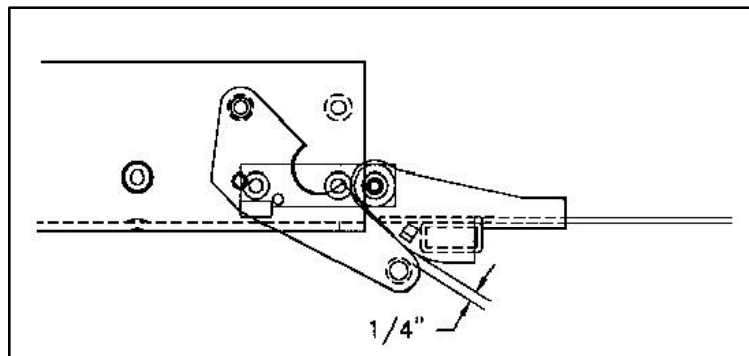

FIGURE 2-6: CORRECT PNEUMATIC SPRING LINK LENGTH
- f. Refer to **Figure 2-6**. The correct pneumatic spring link length should produce no greater than a 1/4" distance between the bridgeplate support assembly and bridgeplate stirrup assembly as shown.